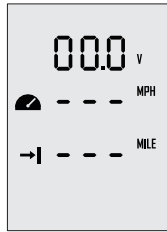

Figure 6-1
**Step1:** In power-on state, press “M” button and hold to enter the preference setting page as shown in Figure 6-1. Users can choose display items based on personal needs and preference.
**Step2:** On the preference setting page, the blinking item is the item waiting to be set. Press the “^” button to view options for the blinking item. For example, in Figure 6-1, if “V” is blinking on the preference setting page, it means that “V” has other alternate options. Just press the “^” button, and “V” will switch to “%”, i.e. the displayed item is switched from voltage to battery level.